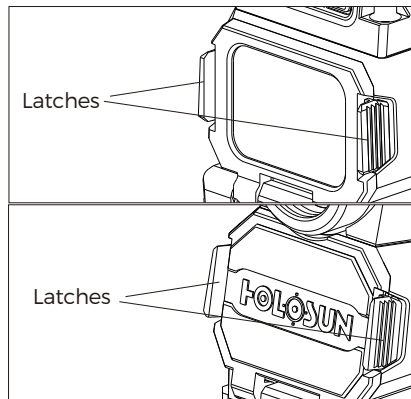

Fig 21
2. To open the front and rear lens covers of the red dot sight, press the latches on both sides of the lens covers inward and the lens covers open. (See Figure 21)